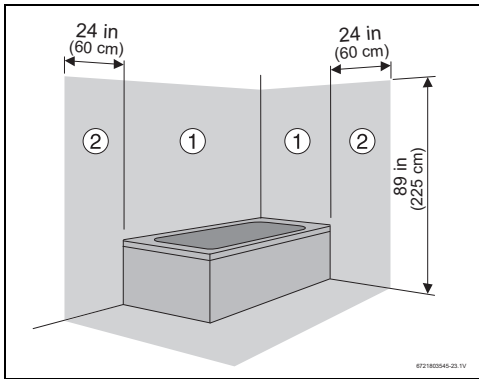

Fig. 4 Protection areas for bathtub or shower stall
- ▶ Do not install the heater in protection areas 1 and 2 (→ Fig. 4).